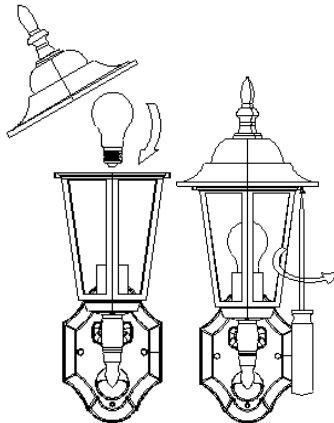

FIGURE 6
- (4) Fit the lamp and screw back the top cover (FIGURE 6).